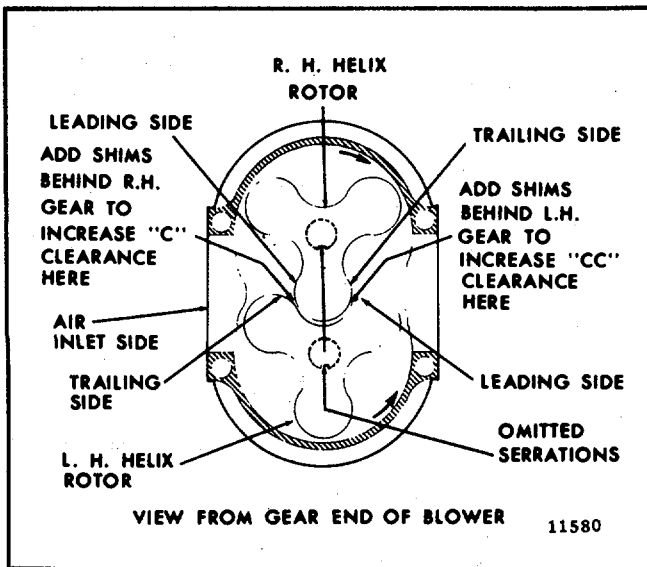

Fig. 25 - Diagram Showing Proper Location of Shims for Correct Rotor Lobe Clearances
6. After determining the amount one rotor must be revolved to obtain the proper clearance, add shims back of the proper gear as shown in Fig. 25 to produce the desired result. When more or less shims are required, both gears must be removed from the rotors. Placing a .003" shim in back of a rotor gear will revolve the rotor .001".